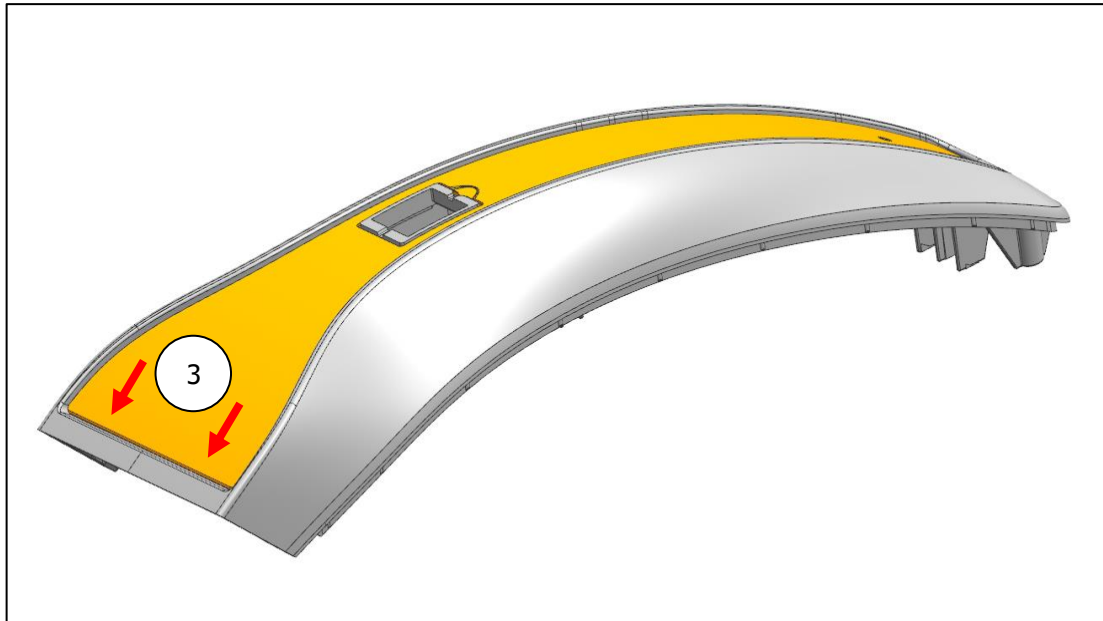

Fig. 23
- c) Now lock the front eyelets of the cover with the pins provided on the upper housing (Fig. 23).